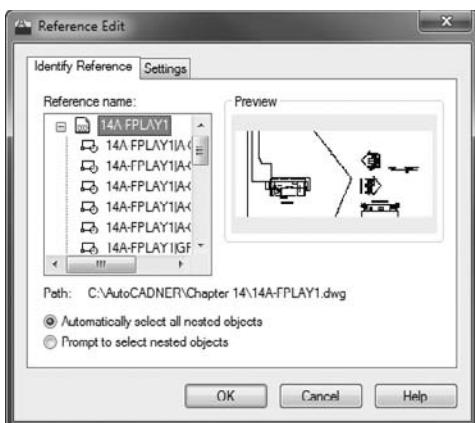

FIGURE 14.55 Opening the 14A-FPLAY1.dwg reference from the Reference Edit dialog box
4. From the Reference Edit dialog box shown in Figure 14.55 that opens, select the 14A-FPLAY reference and click OK.